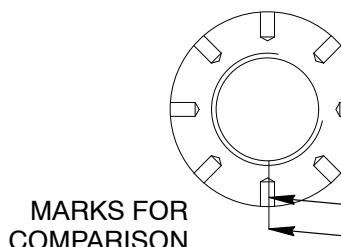
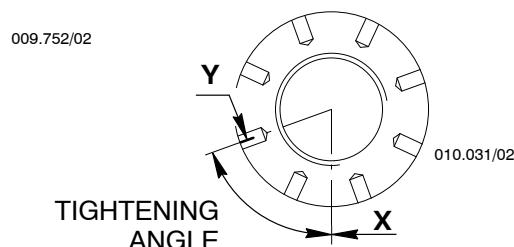

Fig. 3
Fig. 4
- 2) Put one reference mark (Y) on the nut and one reference mark on the part below (X) (see Fig. 3 and Fig. 4).